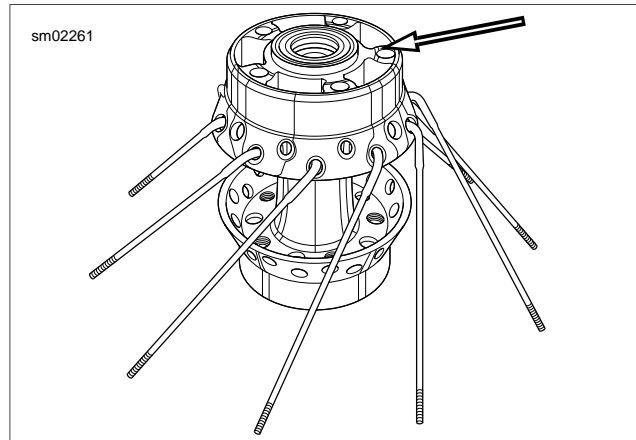

Figure 2-21. Hub: Brake Side (Narrow Flange) Up
1. See Figure 2-21. Place the hub on table with brake disc side (narrow flange) up. Insert a spoke in each hole of the **lower** row. Angle spokes clockwise.